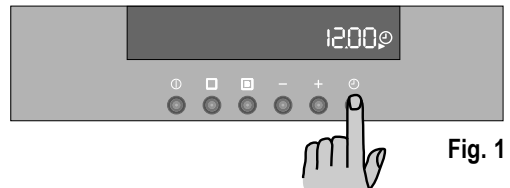

Fig. 1
a) The symbol  is flashing (Fig. 1), set the correct time of day by pressing buttons “-” or “+” (Fig. 2).